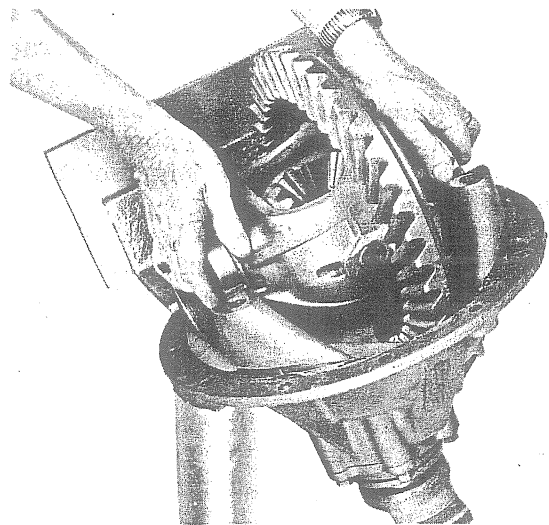

Fig. 117 - Positioning Differential into Carrier
15. Check that bearing cones are properly seated in differential, position the cups over the cones -- then position ring gear and case assembly into the differential carrier as shown in Fig. 117.